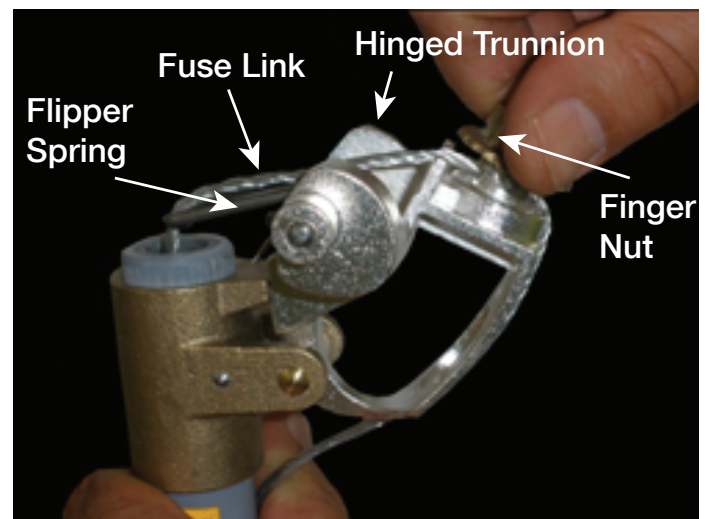

Figure 3- Fuse link loading
6. Tension the fuse link sufficiently to hold the flipper spring against the stop and wind the pigtail around the threaded post under the nut and washer in a clockwise direction (Fig 3).